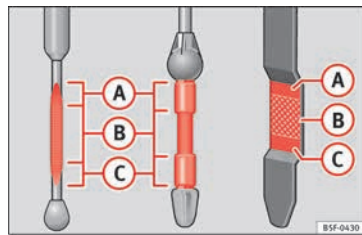

Fig. 234 Engine oil dipstick.
- Then pull it out once more and check the oil level » **Fig. 234**. Top up with engine oil if necessary.